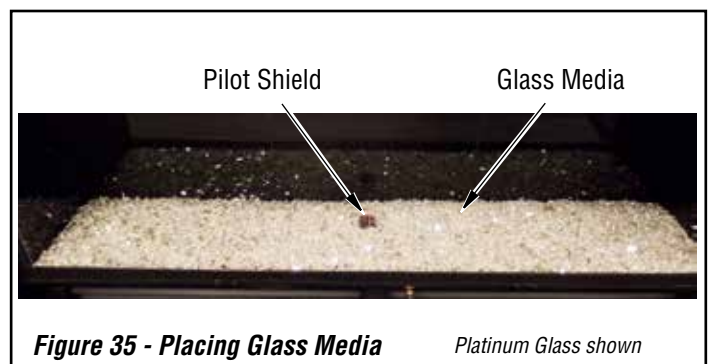

Figure 35 - Placing Glass Media
1. Place glass media in a layer evenly make sure only one layer of media on top of the burner and remaining media could be spread evenly across the remaining pan media. Ensure not to place media on top of the pilot shield, it is okay to place media around the shield (see **Figure 35**).